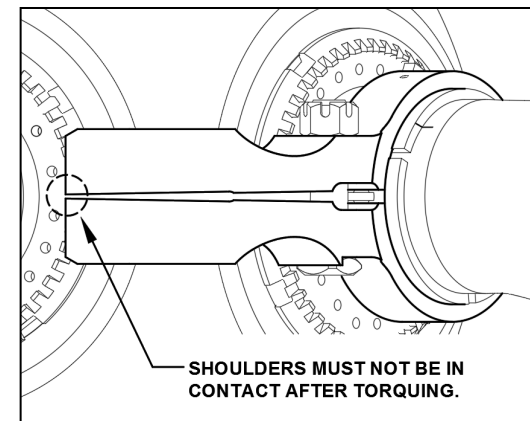

FIGURE 5-6
- I. Check the clamp after tightening. The shoulders must not touch each other at the end after torquing (figure 5-6).